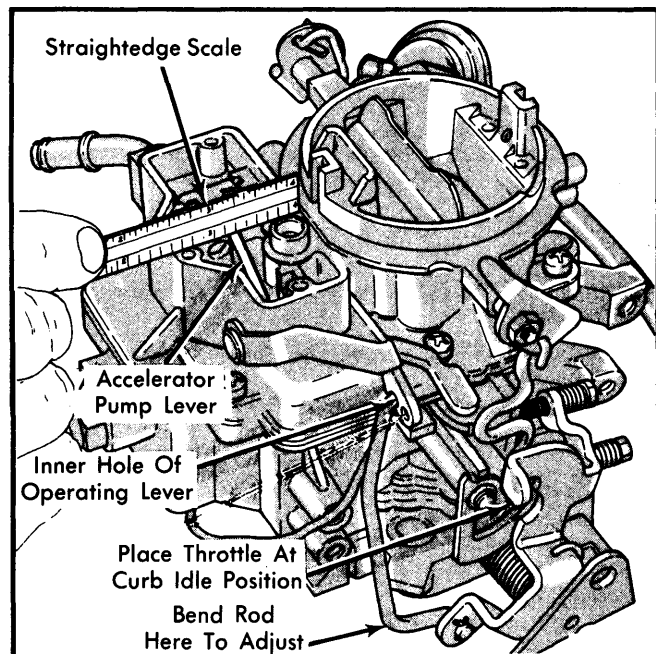

Fig. 2 Adjusting Accelerator Pump Stroke
1) Remove bowl valve vent cover and spring. Care must be taken not to dislodge or lose vent valve lever retainer. Install accelerator pump rod in inner hole of pump operating lever. See Fig. 2.